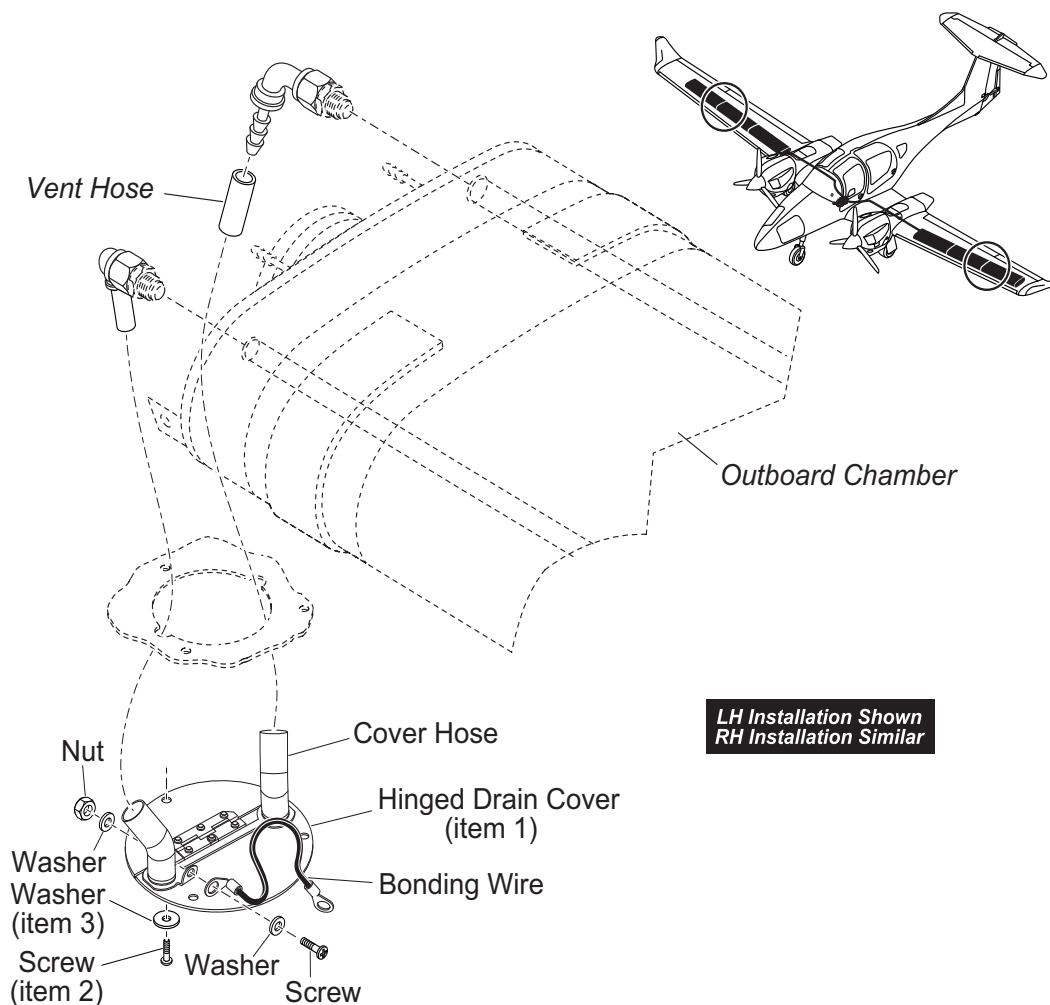

Figure 1. Hinged drain cover installation.
2. Install the hinged drain cover (refer to Figure 1):
- ii. Attach the larger part of the cover to the bottom of the wing using two screws (item 2) and two washers (item 3). Ensure the cover hoses and vent hoses engage without kinking.